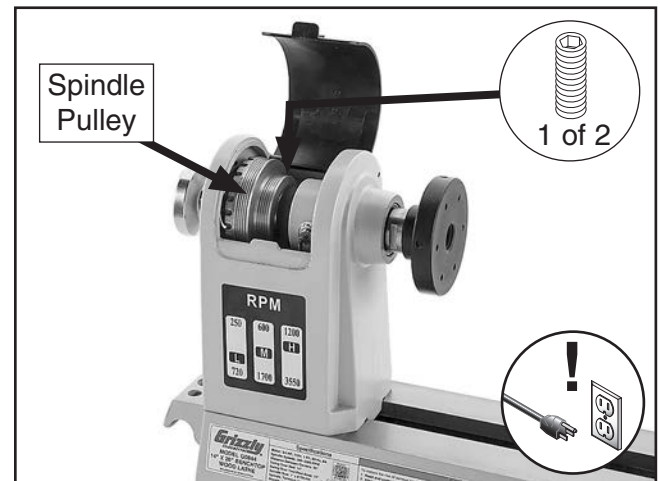

Figure 46. Location of spindle pulley and set screws.
3. Loosen (2) set screws on spindle pulley (see **Figure 46**).